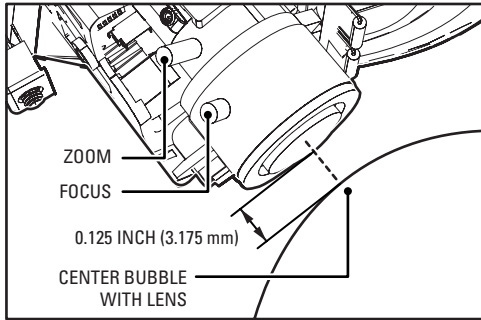

Figure 9. Adjusting the Focus
2. Position the inverted dome approximately 0.125 inch (3.175 mm) from the front of the lens. Make sure that the lens and the dome are centered (refer to Figure 9).